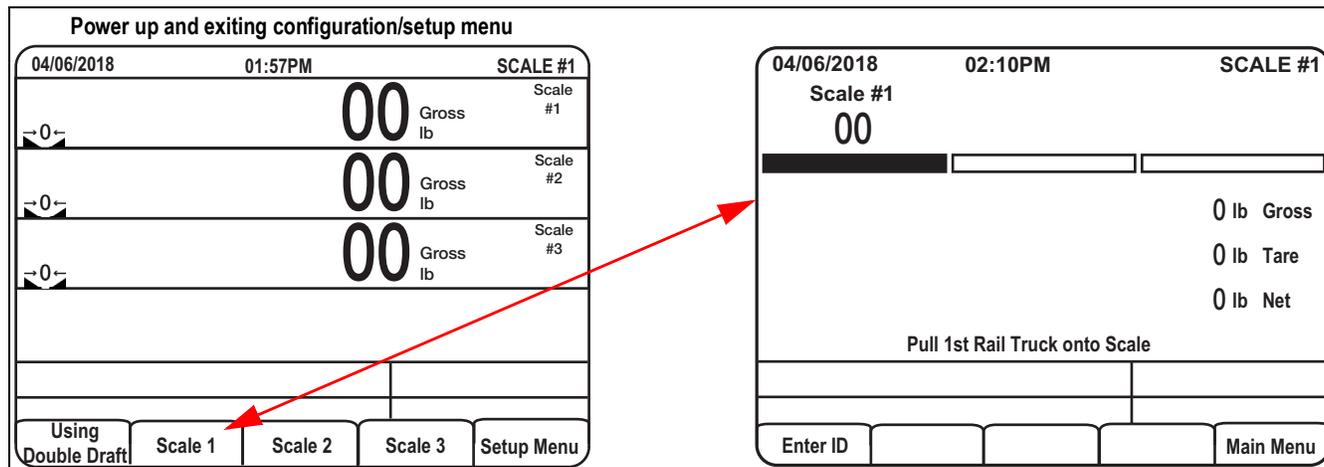

Figure 2-1. 920i Double-Draft Menu
1. Ensure **Using Double Draft** is the first softkey displayed. See Figure 2-1.